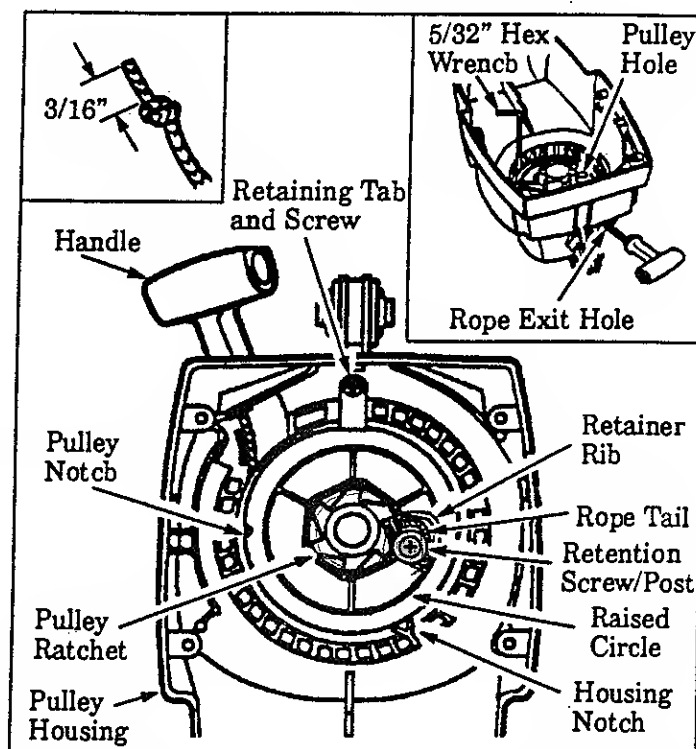

Figure 22
6. Remove Retention Screw. Figure 22. Untie Rope around the Pulley Ratchet and pull the Rope out of the Pulley Housing. Figure 22.
7. Position the Pulley Housing as shown in Figure 22. Hand turn the Pulley clockwise as far as it will go. Then, turn the Pulley counterclockwise until the Pulley Notch is aligned with the Housing Notch. Figure 22. Next, turn the Pulley one complete turn counterclockwise until the notches are aligned again.
8. Insert the small hex wrench into the hole formed by the Notches to hold the Pulley in position. Figure 22 (inset-upper right).
12. Insert one end of the Rope through the Handle and secure with a knot. Leave a 3/16" pigtail behind the knot. Figure 22 (inset-upper left).
13. Insert the other end of the Rope through the Rope Exit Hole into the inside of the Housing, into the Pulley and up through the Pulley Hole. See Figure 22 (inset-upper right).
14. Wrap Rope counterclockwise around the Pulley Ratchet and tuck loose end under Rope at the Pulley Hole. Leave a 1 inch tail laying flat on top of the Pulley between the Retainer Rib and the Retention Post. Figure 22.
15. Re-install the Retention Screw. Pull firmly on the rope to tighten it against the Pulley Ratchet. The rope tail *must not* extend beyond the Raised Circle on the Pulley to prevent interference with the Retaining Tab. Figure 22.